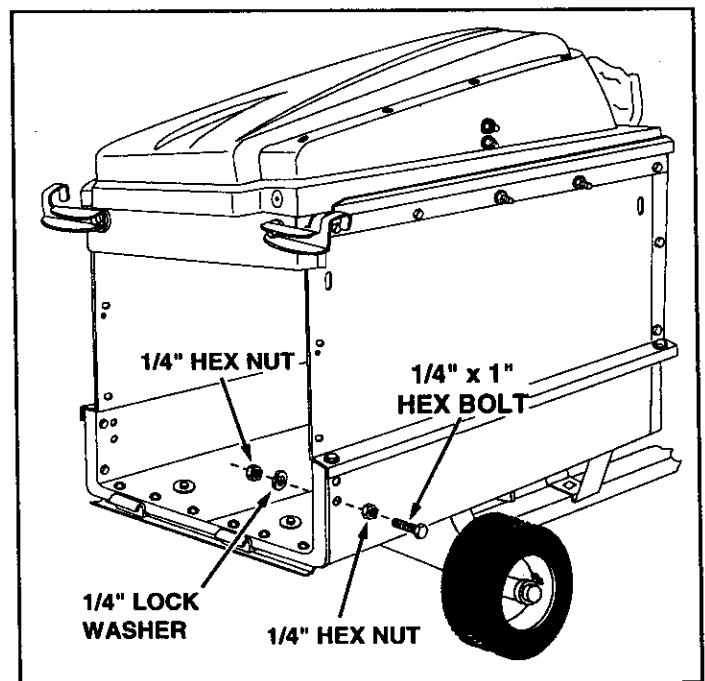

FIGURE 19
- Lower the hard top. If it does not fit down easily into the "Z" brackets, adjust the width of the hardtop by adjusting the nuts on the tie rod. See figure 19.
- Screw a 1/4" hex nut approximately half way onto a 1/4" x 1" hex bolt. Insert the bolt into the hole in the side of the cart as shown in figure 19. Fasten the bolt to the cart using a 1/4" lock washer and 1/4" hex nut. **Tighten** so that the nut is even with the end of the bolt. Repeat on the other side. See figure 19.